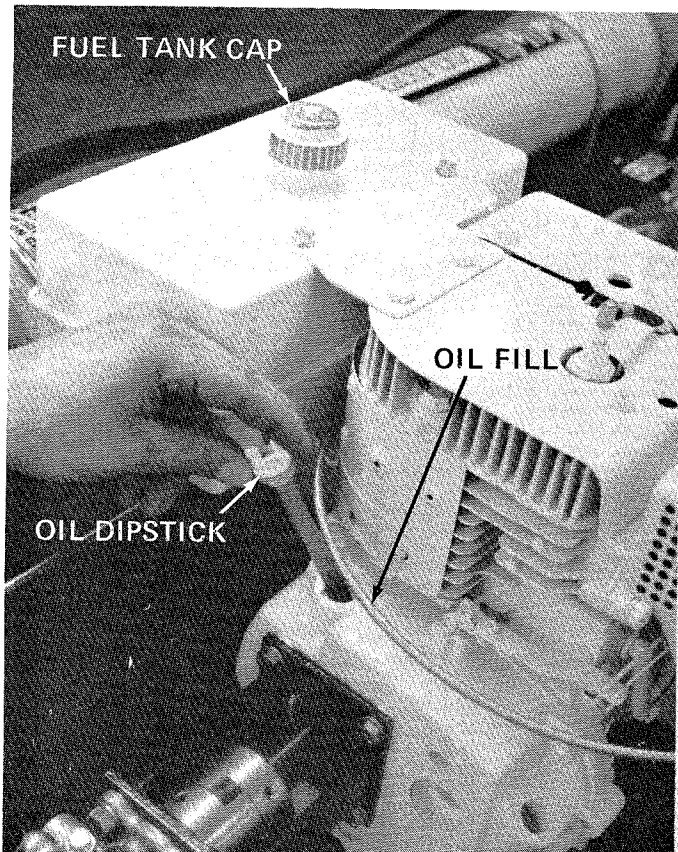

FIGURE 6
2. Fill fuel tank with one gallon of regular grade gasoline. See figure 6.
3. Engine will require 1-1/2 pints of SAE 30 or 10W30 oil. Remove oil dipstick. See figure 6.